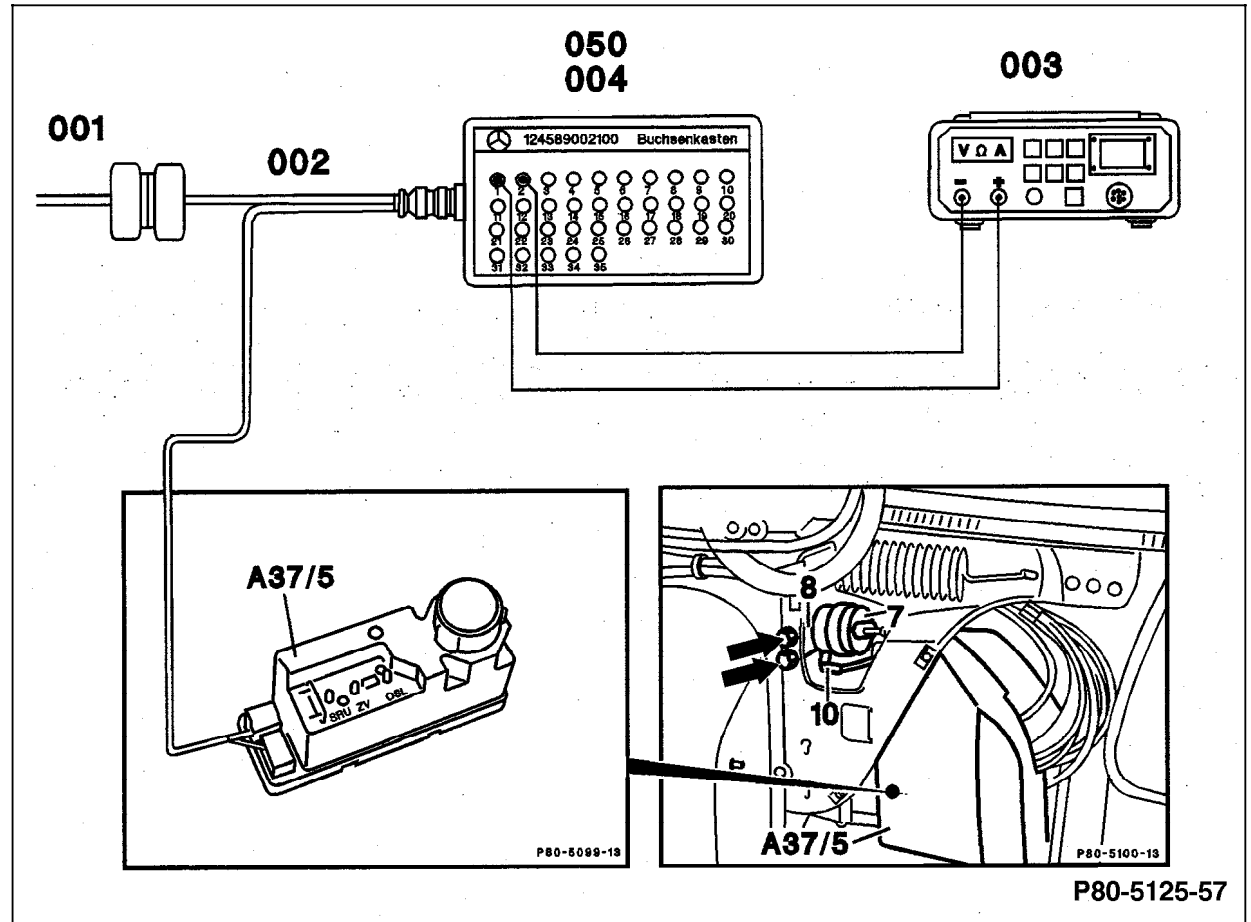

Figure 1
4. Connect socket box with test cable according to connection diagram, see 22, Figure 1.